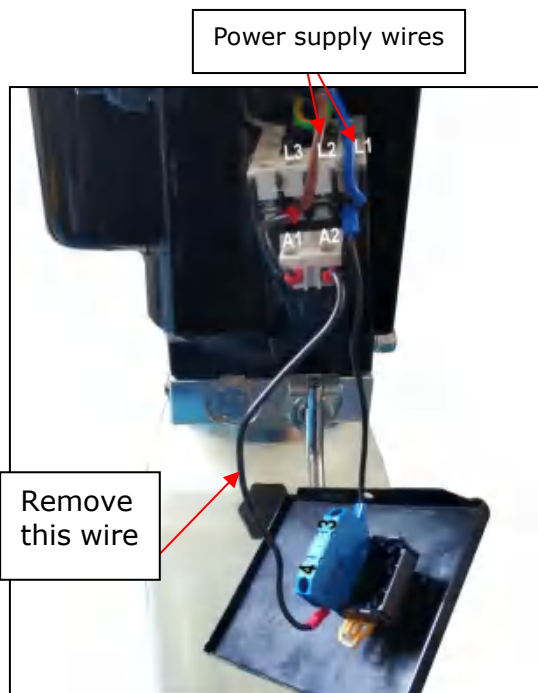
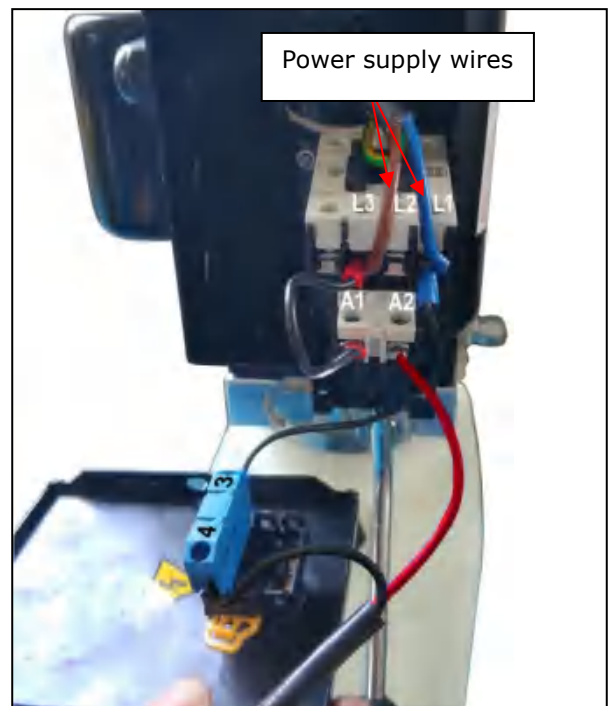

Fig. 44
Fig. 45
- Connecting limit switch wire: remove the short wire connecting terminal 4# of control button and A2 of AC contactor firstly (See Fig.44), then according to the wire number of the limit switch, connect them respectively to terminal 4# of control button and A2# of AC contactor. (See Fig. 45)